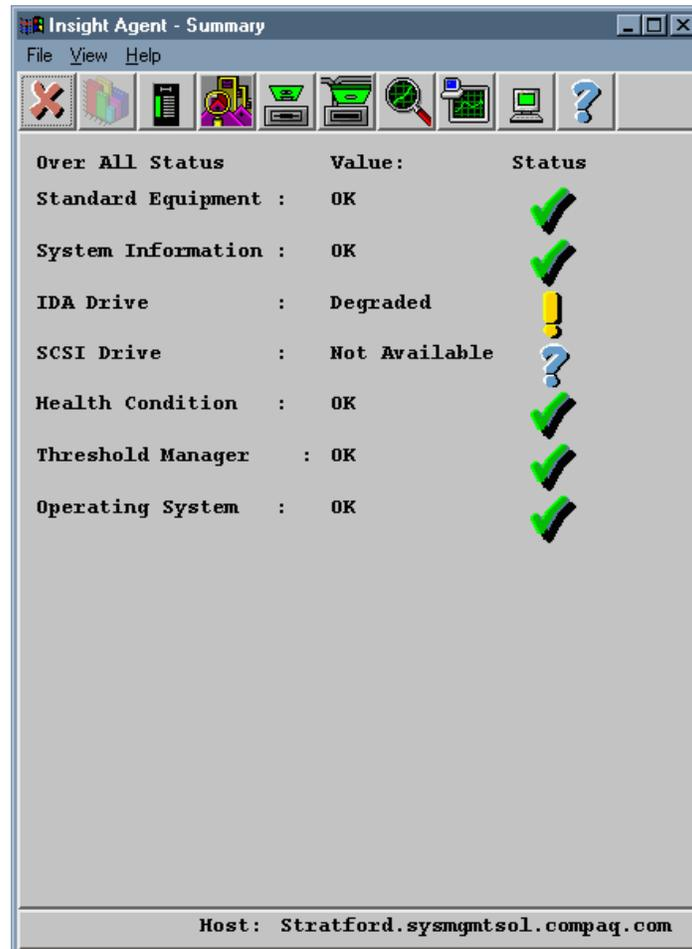

Figure 6-3. Agent View of Compaq Server Management Agents
The Unicenter TNG Integration Module for Compaq Insight Manager provides an Agent View for the Compaq Management Agents (Figure 6-3). This feature is similar to the Agent View option for the NT System Agent.
**NOTE:** Some systems may appear as NOT AVAILABLE, as shown in Figure 6-3. In many cases, this is correct. For example, the system shown in Figure 6-3 contains no SCSI devices, so information on that system is not available.